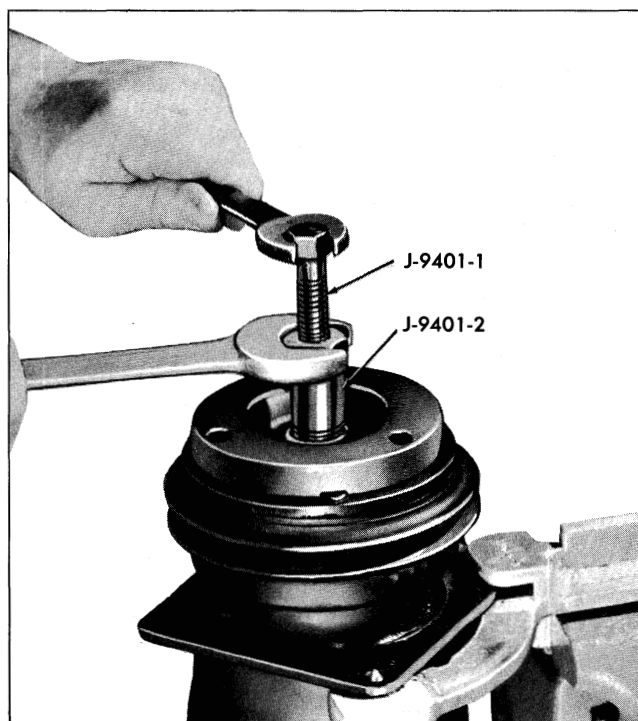

Fig. 4-15 Removing Hub and Drive Plate Assembly
2. Screw threaded hub puller J-9401 into the hub. Holding body of tool with a wrench, tighten the center screw to remove hub and drive plate assembly (Fig. 4-15). Remove J-9401 puller.